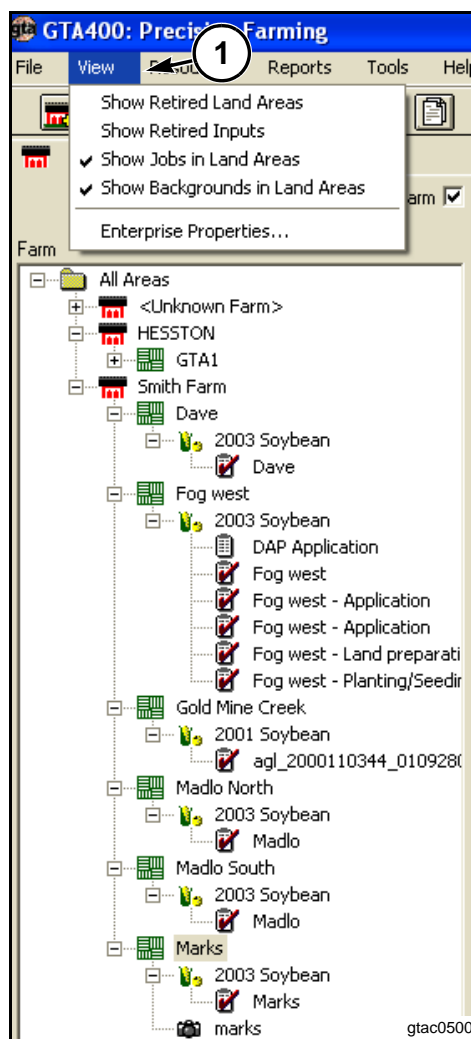

FIG. 2
FIG. 2: The **Farm** tab continues to list the farms and fields in a tree structure format. In addition enterprises, jobs, and background images are also listed in the tree structure. This addition will allow the user to view all applicable information at one time. A user may choose what is listed in the tree structure by checking or unchecking options in the **View** menu (1).